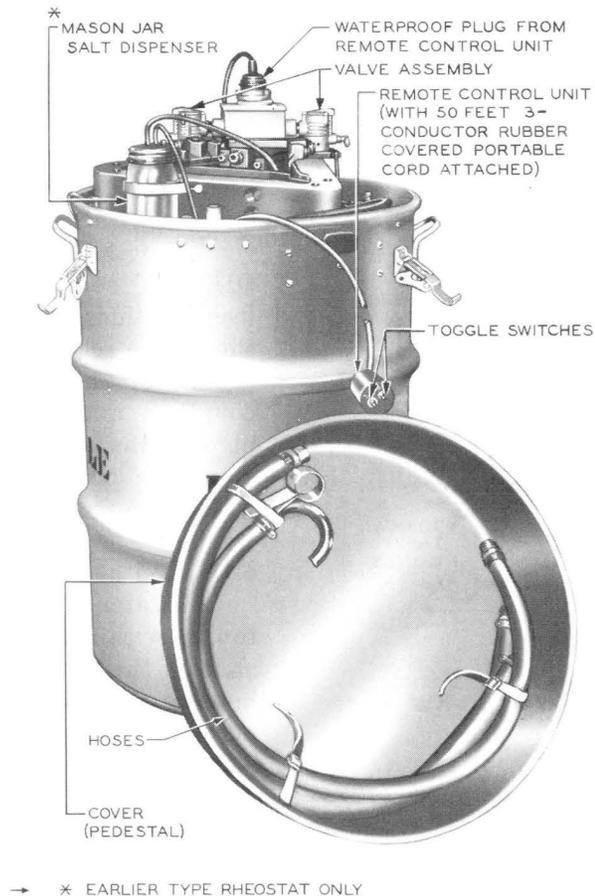

Fig. 16 – R-3104 120-KW Water Rheostat With Cover Removed
6.15 The water rheostat is composed of a 50-gallon size large steel drum, see Fig. 16, into which is mounted an assembly consisting of a set of three cooling coils, three electrodes, a bracket containing the operating valves, and a hydraulic-ram-operated separator assembly.
(1) **R-3104 Water Rheostat Equipped With the Mason Jar Salt Dispenser:** Remove the mason jar which is the salt dispenser, see Fig. 16, from its holding clamp located at the top of the rheostat assembly. Remove the lid from the jar. Fill the jar to within 1 inch of the top, preferably with hot water.